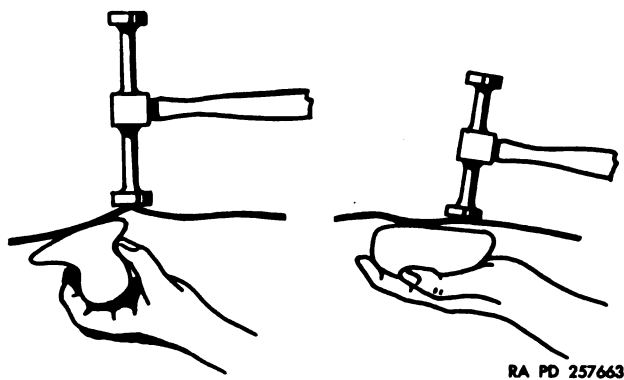

Figure 193. Dinging off the dolly.
b. Dinging Off the Dolly. Figure 193 illustrates dinging off the dolly process. The high-crowned face of the bumping body hammer is used and the blows are directed against the rim of a dent. The dolly block is held against the bottom of the dent and pressure is exerted to force the dent out, as indicated.